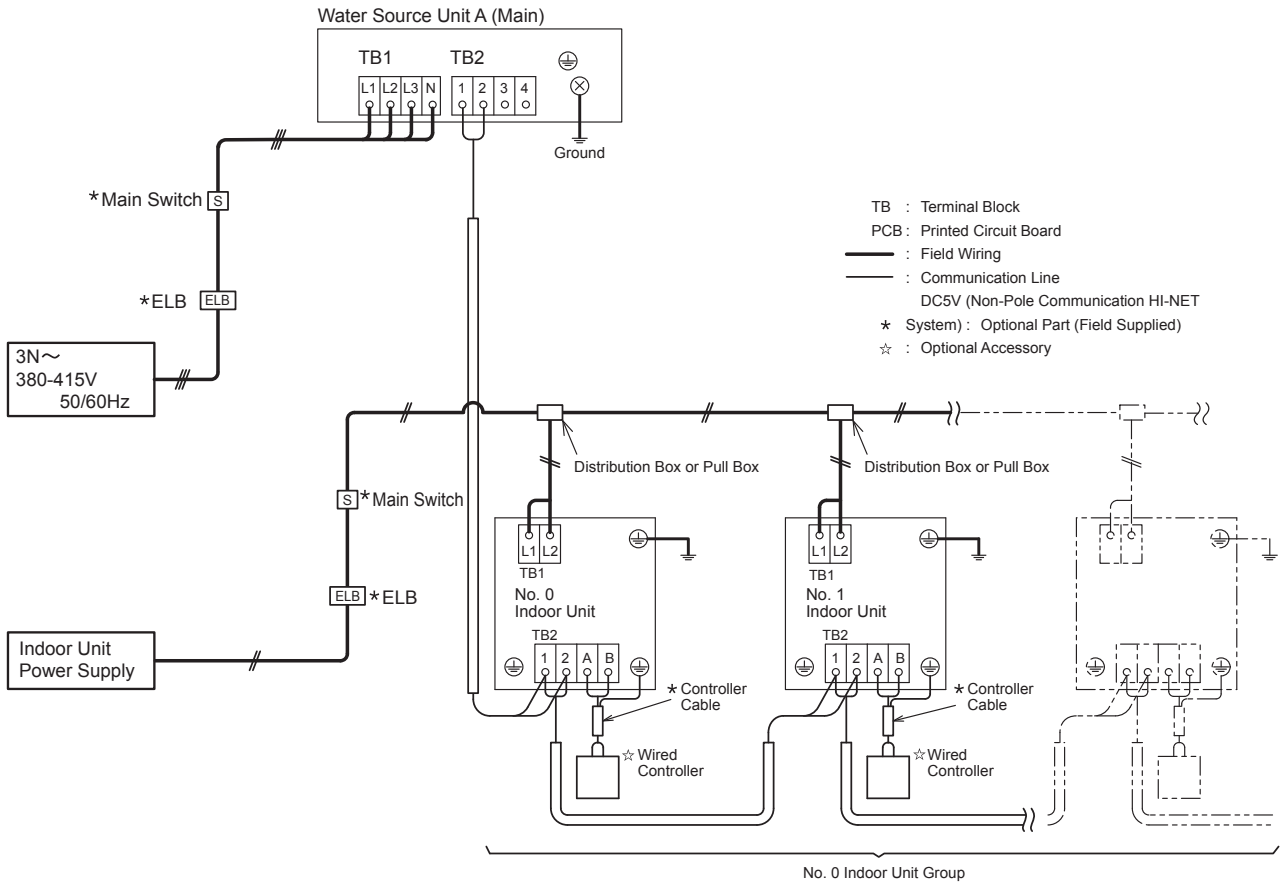

Figure 8.5 Layout for Electrical Wiring Connection (Heat Pump System)
- (3) Connect the communication cable between indoor units, change-over boxes and water source units, as shown in Figure 8.5 and 8.6.
- (4) Connect the communication cables in the same refrigerant system unit. (If the refrigerant piping of indoor unit is connected to the water source unit, also connect the communication cables to the same indoor unit.) Connecting the refrigerant piping and communication cables to the different refrigerant systems may lead to malfunction.
- (5) Use communication cabling that is a minimum of AWG18 (0.82mm2), 2-Conductor, Stranded Copper. Shielded cable must be considered for applications and routing in areas of high EMI and other sources of potentially excessive electrical noise to reduce the potential for communication errors. When shielded cabling is applied, secure properly and terminate cable shield as required per Hisense guidelines. Plenum and riser ratings for communication cables must be considered per application and local code requirements. (Do not use Tri-Core or anything beyond.)
- (6) Use the same kind of cables in the same HI-NET system.
- (7) Maintain at least 27mm between the communication cables and the power supply wiring, and also min. 1.5m between the communication cables and power supply wiring for other electrical device. If these cables are not secured, sleeve the power supply wiring into the metallic conduit tubing to separate them from the other cables. Make sure power supply wiring are well-grounded.